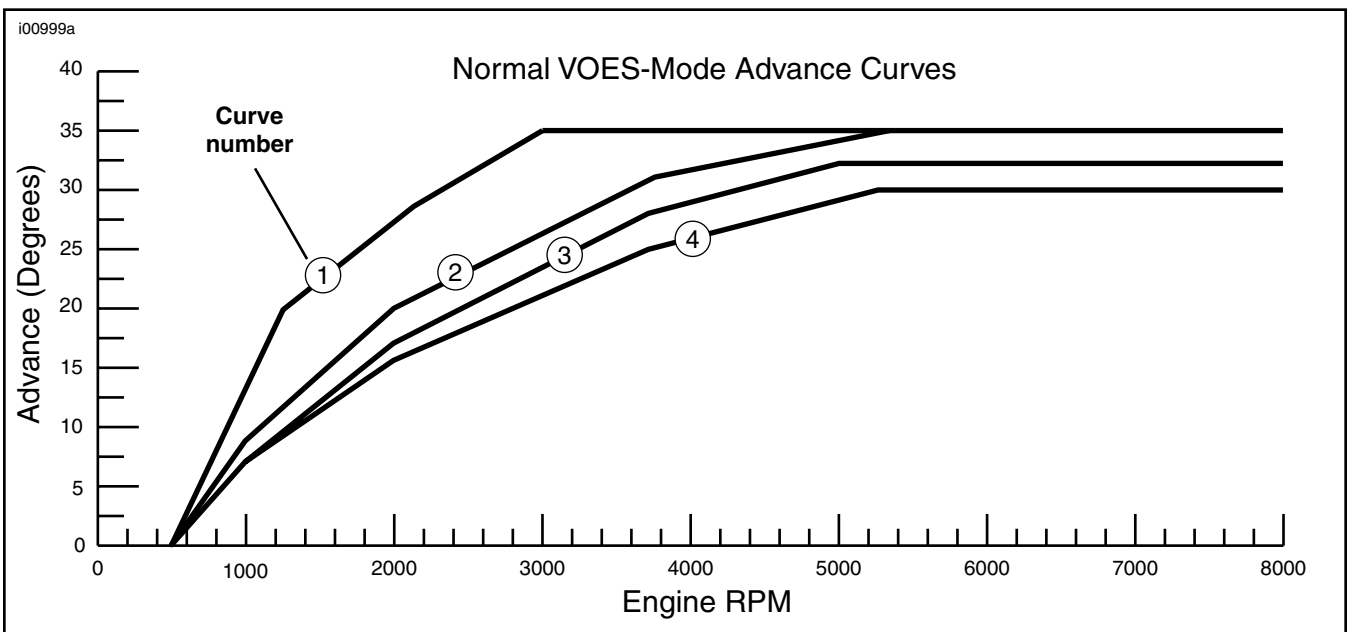

Figure 3. Engine-Advance Graph
- h. See Figure 3. Slowly rotate the module plate until the red LED illuminates, then tighten the module plate screws to 15-30 **in-lbs** (1.7-3.4 Nm).
For heavy motorcycles, or built motors that tend to detonate, the advance can be brought in more slowly. If the VOES wire is left unconnected, the advance always follows the slower RPM curve as shown in Figure 3.